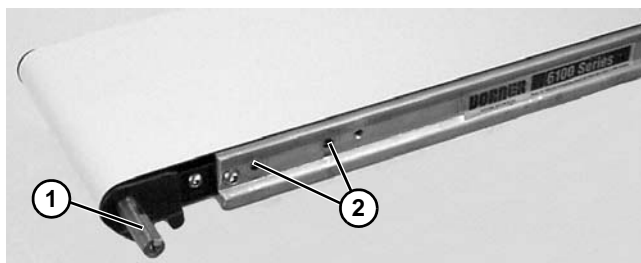

Figure 9
3. Locate drive output shaft (Figure 9, item 1) and remove two (2) screws (Figure 9, item 2).